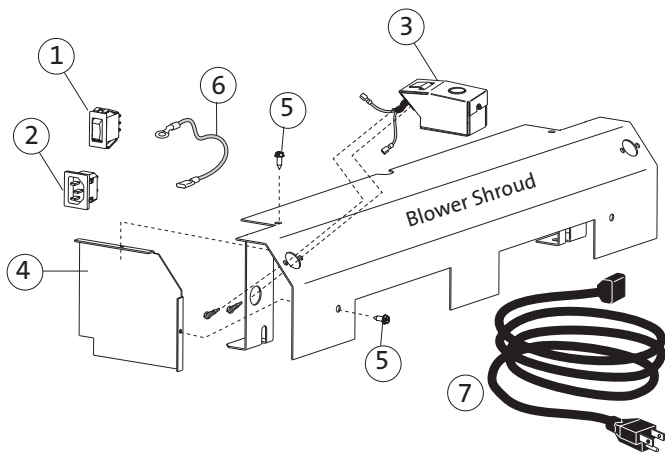

Figure 13. Blower hardware contents and orientation.
The blower is fully assembled, except for the wire harness connections which depend on what side you wish the power cord to be routed. The power receptacle, control switch, and snapstat assembly must all be installed on the same side. See fig. 13 for part orientation.
7. Install Snapstat Assembly: Remove the snapstat knockout from the same side of the Blower Shroud. Run the snapstat leads through that hole and attach the bracket to the Shroud using two #8 x 1/2" sheet metal screws. The clearance hole in the shroud leg is for screwdriver access. See fig. 13.
8. Attach the Air Deflector: Using the two remaining #8 sheet metal screws, attach the Air Deflector to the Blower Shroud on the same side as the snapstat is installed. See fig. 13, parts 4 and 5.